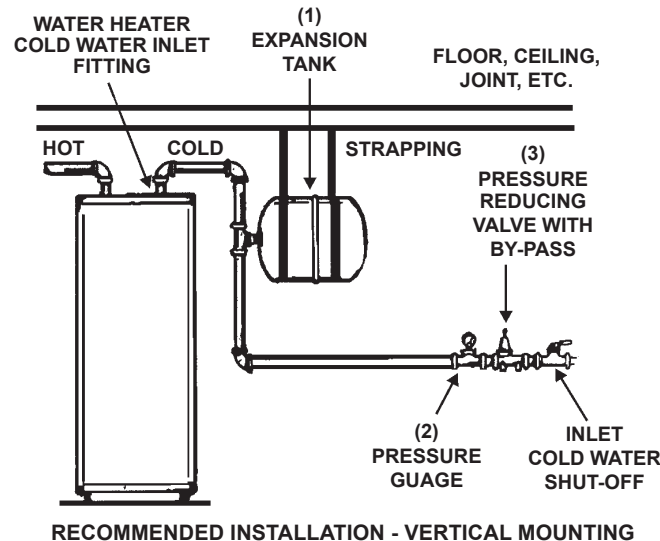

FIGURE 2.
3. The expansion tank is designed to be supported by the system piping in the vertical position. If, however, the expansion tank must be installed horizontally, as shown in Figure 2, it must be supported by adequate strapping (not supplied).